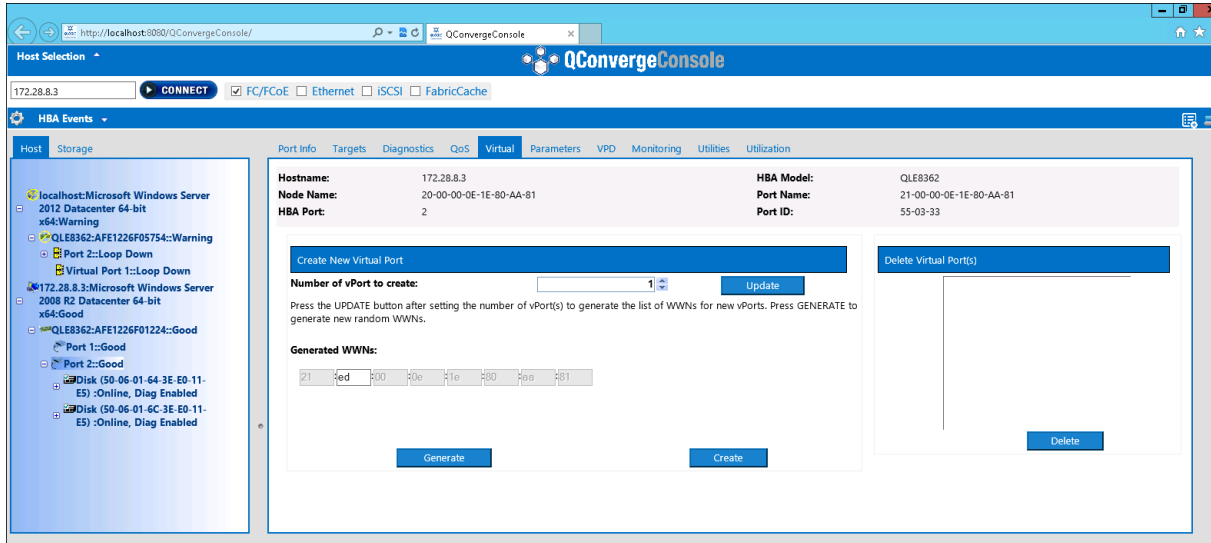

Figure 3-37. Creating vPorts in QConvergeConsole GUI
- Figure 3-37 shows an example.